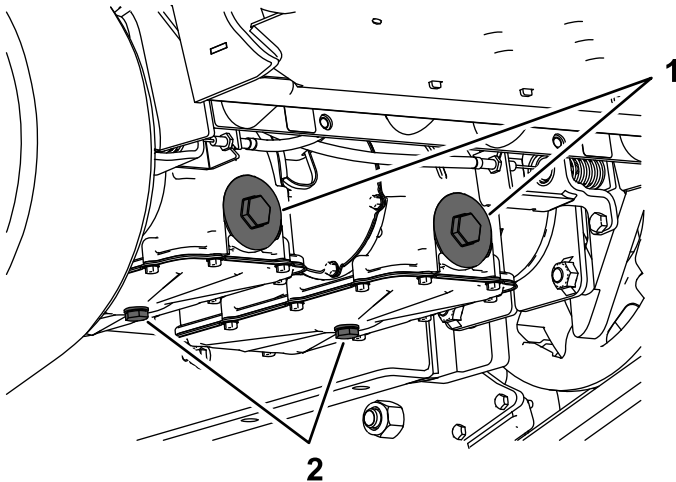

**Figure 46**
4. Remove the 6 bolts (2 rear, 4 side) from the skid plate and remove the skid plate (Figure 46).
15. Install the skid plate (Figure 46).